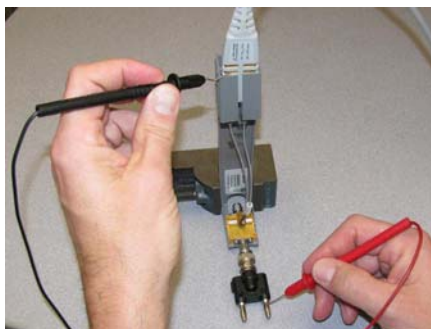

Figure 97 Measuring the Single-Ended Input Resistance the Solder-In Probe Head
- 7 To measure the single-ended input resistance, measure the resistance between the signal plug of the banana adapter and the probe amplifier ground, which can be accessed as shown in **Figure 97** (through the vent window of the probe amplifier).